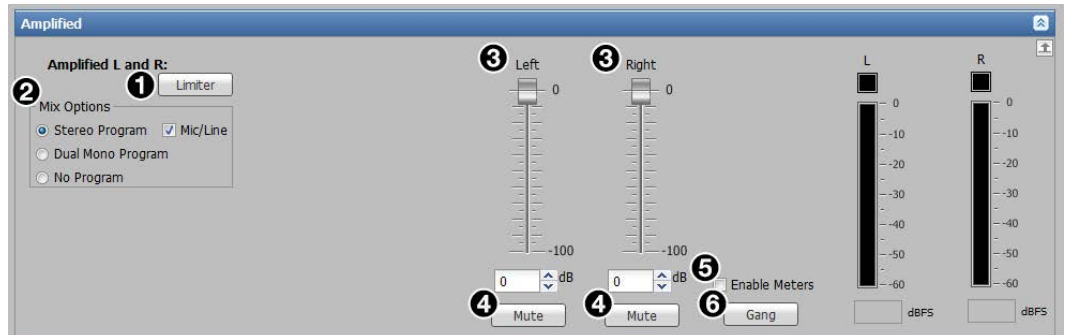

Figure 73. Amplified Audio Output Section (SA Models)
2. If the section has multiple faders, click the **Gang** button (see figure 73 and 75-77, 6, on pages 108-109) to constrain the proportions between fader levels.